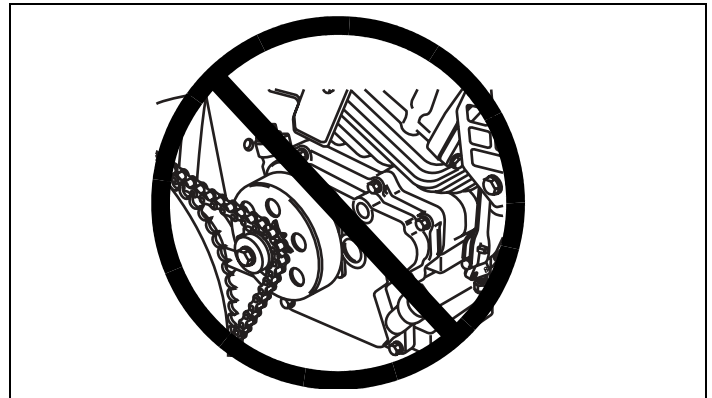

Figure 7. Incorrect Usage Without Engine Shaft Guard
2. Guards—Check that all of the guards are securely in place. NEVER operate the vehicle if you think there may be a guard missing. Check with equipment manufacturer for a complete list of guards. See "D. Stay Away from Rotating Parts" instructions on page 2. See Figures 7 and 8. Afterward, continue reading instructions below.